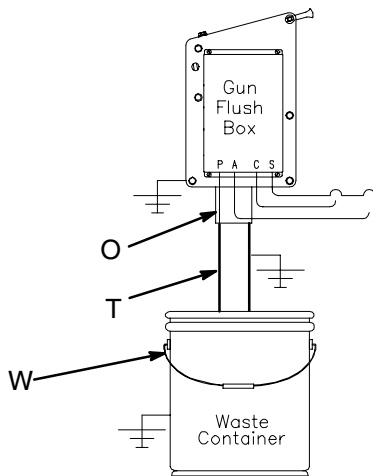

Fig. 2
Connect two feet (0.6 m) of straight plastic or grounded metal pipe or tubing (T) between the Gun Flush Box fluid outlet (O) and an enclosed waste container (W). See Fig. 2.